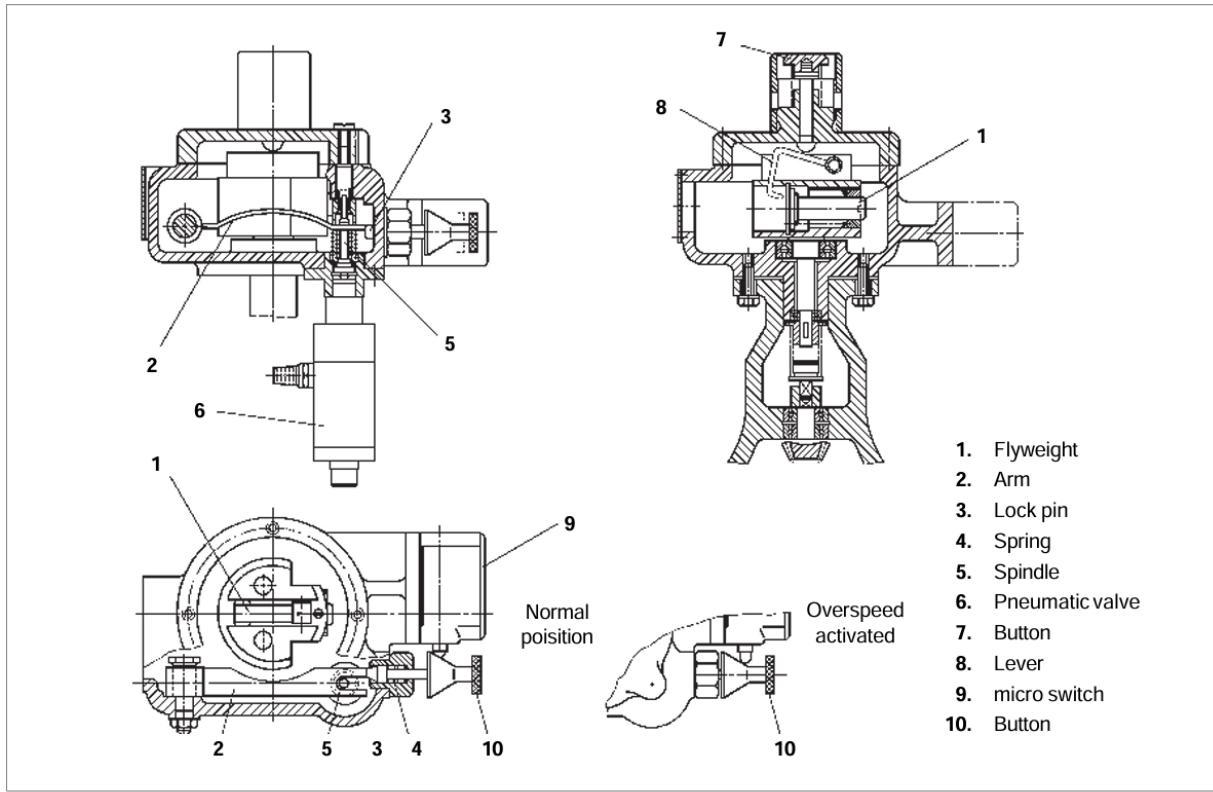

Fig 1. Mechanical overspeed (SSH 81).
The engine can be stopped manually by pressing down the button (7), see fig. 1, which will activate the spring-loaded fly weight (1) through the lever (8).